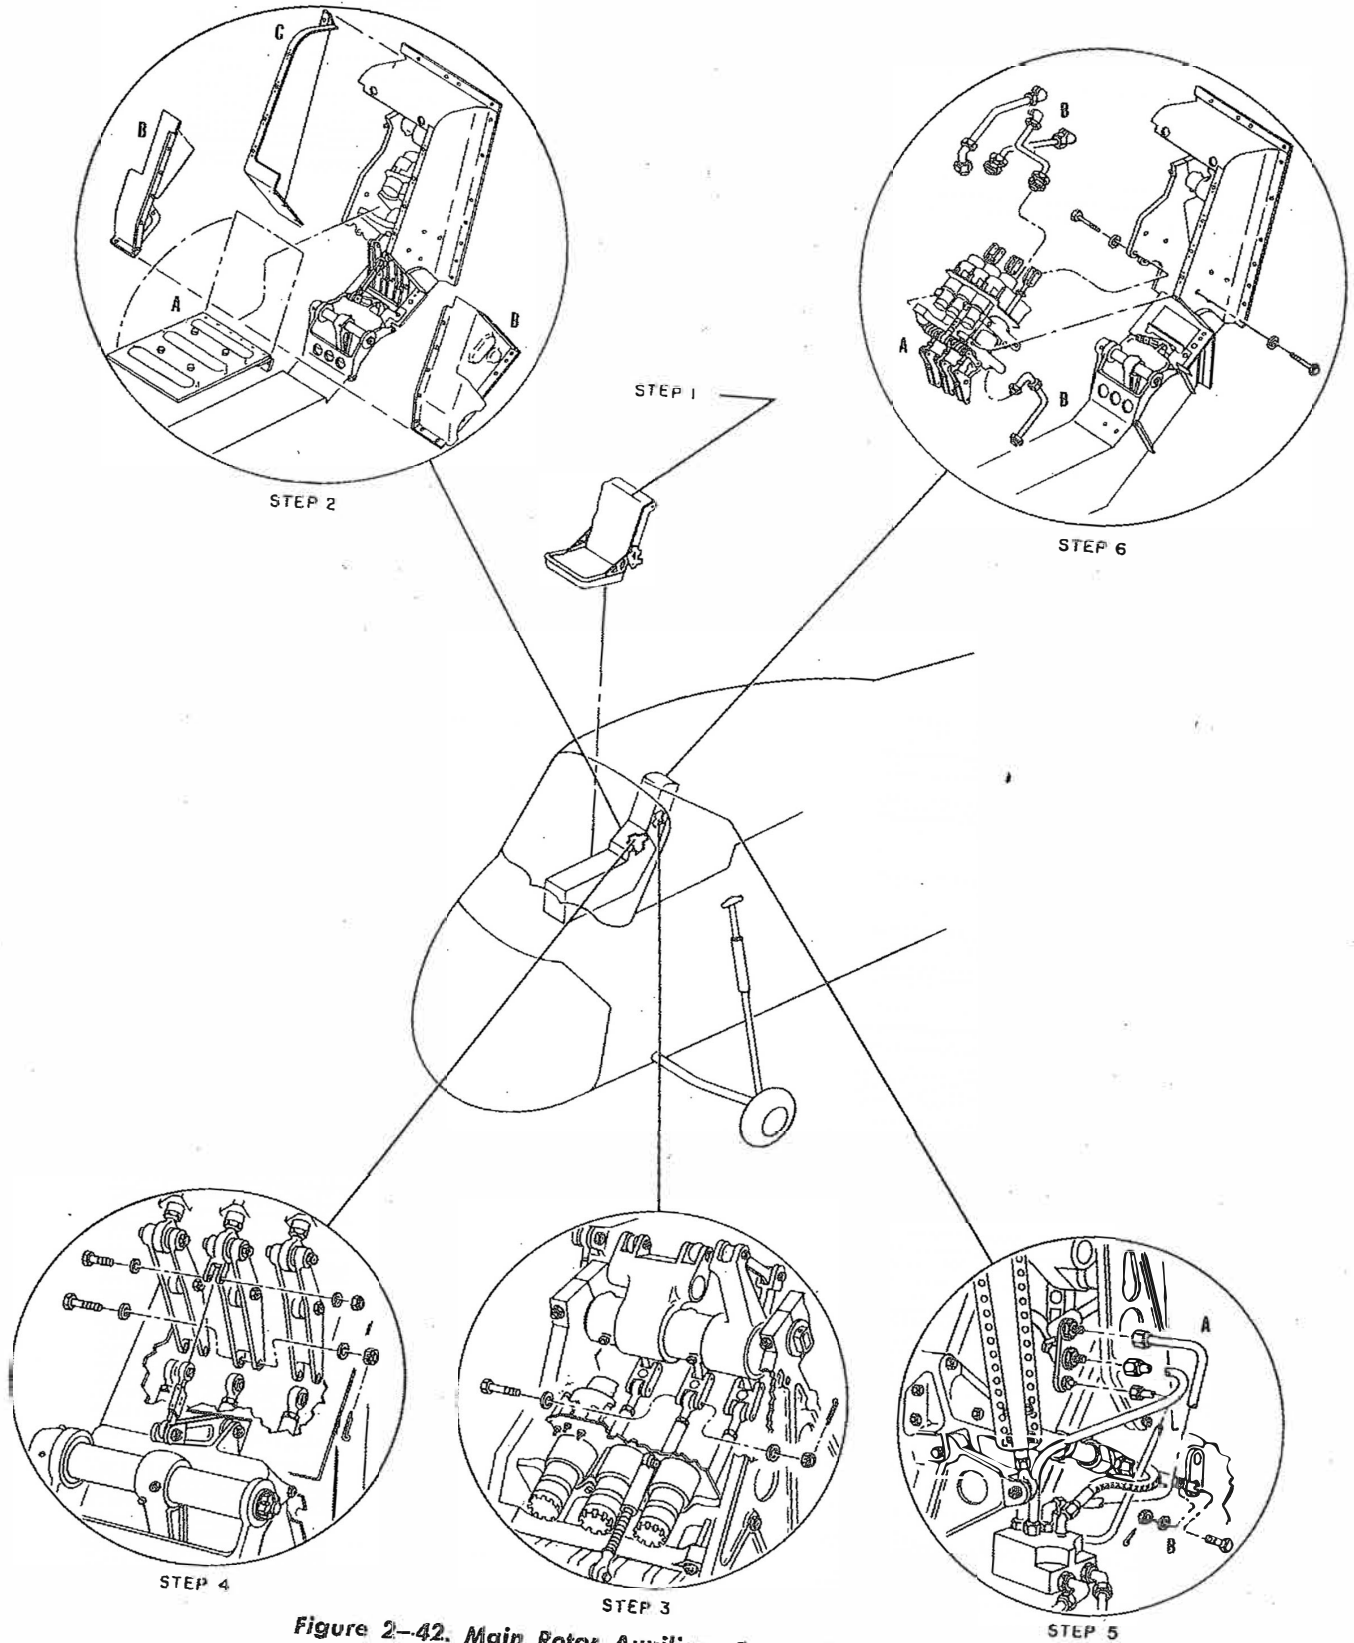

Figure 2-42. Main Rotor Auxiliary Servo Unit Removal
a. Remove the pilot's seat. (See step 1, figure 2-42 and refer to paragraph 2-138.)
b. Hinge down and remove the panel at "A" (step 2, figure 2-42) from the upper servo and mixer cover. Unfasten and remove the lower cover from the main drive shaft tunnel at "B." Unbolt the right-hand panel supporting the covers at "C." Remove the panel.
a. Install the sections of hydraulic tubing at "B" (step 6, figure 2-42). Position the servo unit and bolt it to the supports at "A." Lockwire the bolts.
g. Bolt the right-hand panel to the canted bulkhead at "C" (step 2, figure 2-42). Fasten the lower cover to the main drive shaft tunnel at "B." Install and hinge the panel into position at "A."